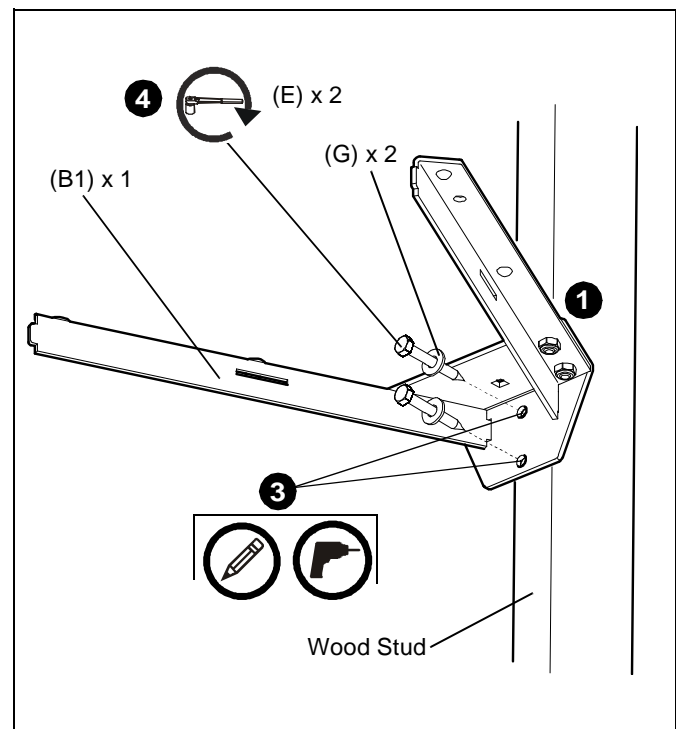

Figure 1
2. Level shelf base. (See Figure 1)
4. Secure shelf base to wood stud using two 1/4" flat washers (G) and two 1/4" x 2" hex head lag screws (E).(See Figure 1)